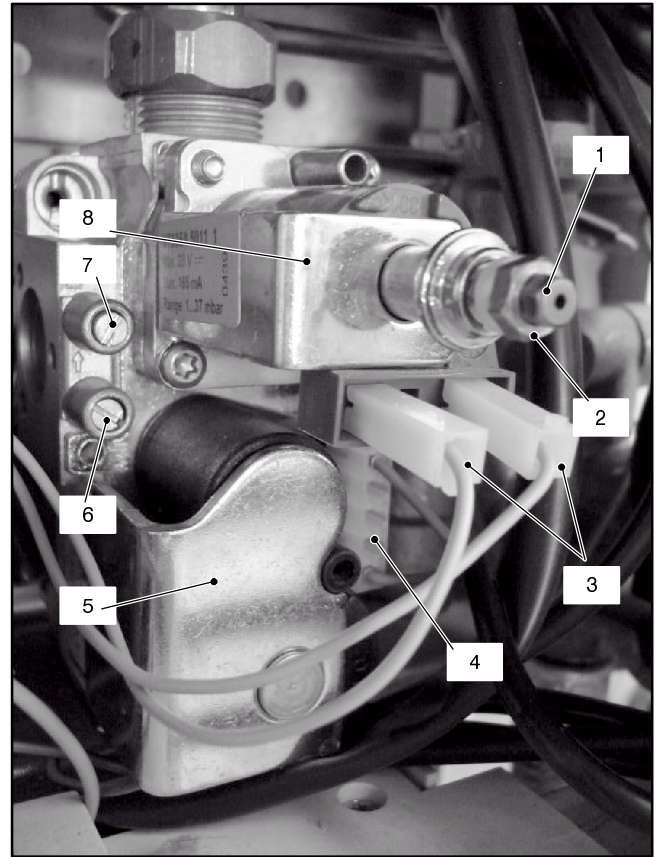

Fig. 53
11.2 Nomenclature of the parts (Fig. 53)
- 2 Open the gas valve inlet pressure test point (6 in Fig. 53) at the valve input, connect a suitable pressure gauge and check the gas pressure of the supply network.
- 4 Open the gas valve outlet pressure test point (7 in Fig. 53) and connect the gauge;
- 7 Rotate the maximum gas pressure adjustment (2 in Fig. 53) until you obtain the required pressure (by rotating clockwise the pressure increases).
- 8 Turn the boiler off and disconnect one of the two connectors (3 in Fig. 53).
- 9 Start the boiler and rotate the minimum gas pressure adjustment (1 in Fig. 53) until you obtain the required pressure (by rotating clockwise the pressure increases).